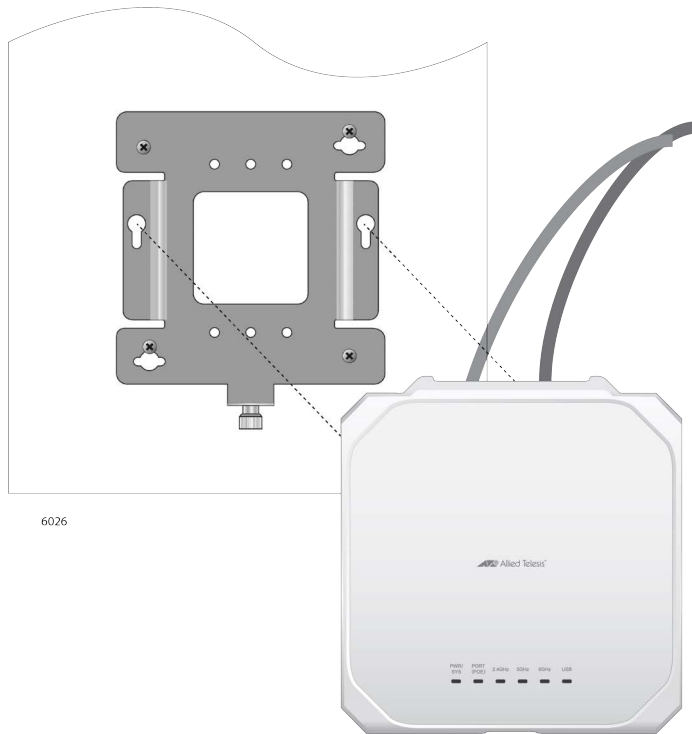

Figure 19. Installing the Access Point on the Mounting Bracket
1. Align the bottom of the access point over the bracket so that the two screws on the bottom of the device fit into the bracket keyholes. Refer to Figure 19. (These are the two access point chassis screws installed in “Pre-fitting the Mounting Bracket on the Access Point” on page 32.)